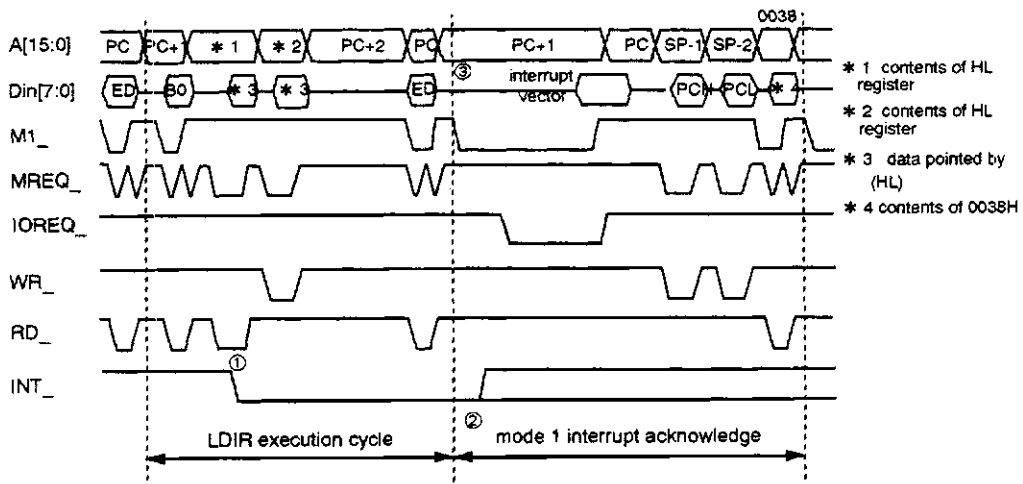

Fig.13 Interrupt acknowledge cycle (Mode 1 timing)
For example, under normal condition, the prefetched instruction, at address 1000H, data 77H at ③ in Figure 8 on execution of the instruction, JP 1000H is held and execute correctly. However, on interrupt the prefetched instruction will be discarded and refetch on return from an interrupt service routine. On interrupt recognition, PC is decremented by one before saved onto stack. On RETI or RETN instruction the PC will be loaded with the address of the discarded instruction. Figure 13 has the timing diagram for the case of receiving interrupt in mode 1 when executing LDIR instruction. In the figure, the data "EDH" prefetched at ③, is discarded and then go to interrupt service. On return, the CPU resume from the prefetch of this "EDH". For the bus request cycle, the data "EDH" prefetched at ③ prior to the bus request will be kept, and on bus release the CPU starts to prefetch from the next address to the "EDH".
The "IM 1 instruction" sets the CPU in this mode. In this mode, the CPU saves the contents the PC (Program Counter) onto the stack, ignores the data read during the interrupt acknowledge cycle, and executes "RST 38H" instruction internally. Figure 13 has the timing for Mode 1 interrupt.
The interrupt is accepted at the end of instruction. In case of block move instruction, the interrupt accepted at the end of repeat movement. The Figure 13 show the interrupt acknowledge timing. In this figure, an interrupt is accepted during block move instruction. ④ shows that when an interrupt request occurs, the interrupt will not be accepted until the prefetch cycle of the last instruction, ⑤. In this case, the data "EDH" fetched at ⑥ will not be kept by the CPU, and it will be refetched on the return from an interrupt.